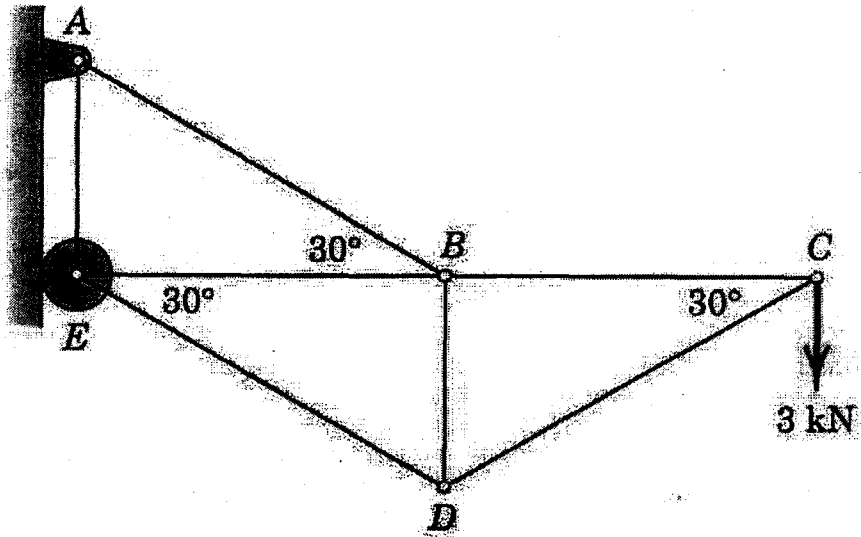

Fig. 5.
- 4 Determine the axial forces induced in the members of the loaded truss shown in Fig.5. (10)